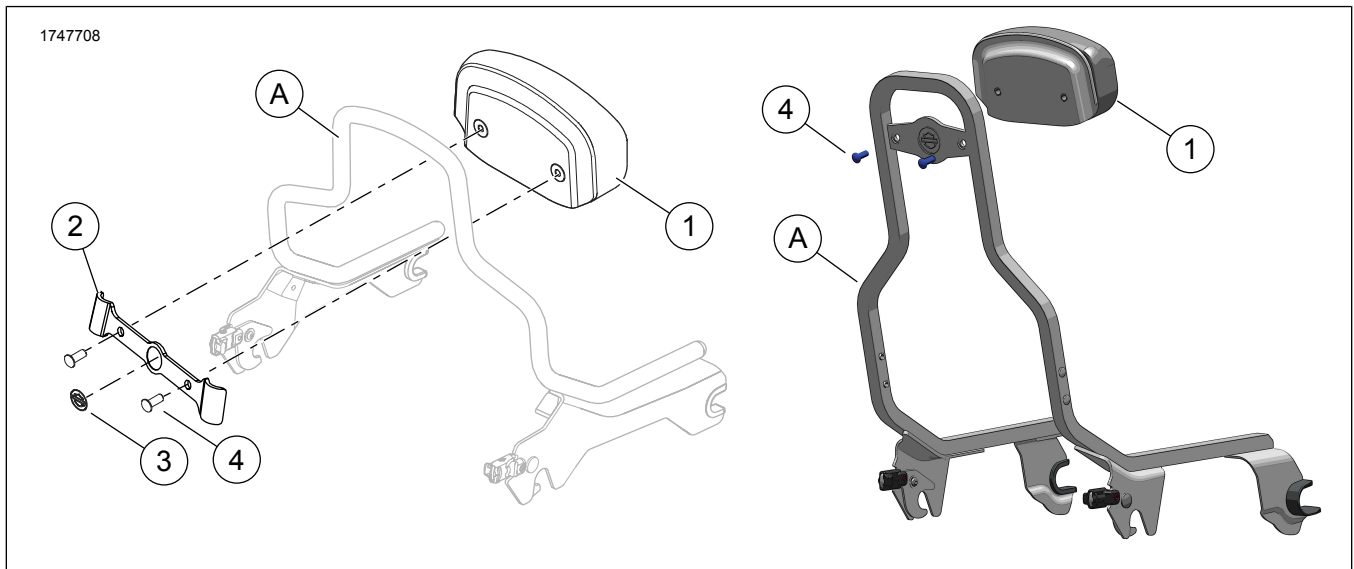

Figure 1. Kit Contents: Compact Backrest Pad Kit
1. See Figure 1. Position backrest pad (1) so that contour in base aligns with top of OE sissy bar upright (A).
- Side of bracket (3) are not symmetrical. Width at top is narrower than width at bottom.
- Use a mixture of 50:50 isopropyl alcohol and water solution to thoroughly clean surface of OE upright (A) before installing bracket (2). Allow to dry completely. Install at room temperature. 10–32 °C (50–90 °F)
2. Remove adhesive backing from left and right sides of bracket (3).
3. See Figure 1. Place mounting bracket against pad so that OE sissy bar upright (A) is between pad (1) and bracket (2).
4. Position and press bracket (2) firmly onto OE sissy bar upright (A).
5. Insert screws (4). Tighten.
1. See Figure 1. Use a mixture of 50:50 isopropyl alcohol and water solution to thoroughly clean surface of OE sissy bar upright (A) before installing bracket (2). Allow to dry completely. Install at room temperature.
1. See Figure 1. If necessary, cut plastic rain seal away from pre-cut screw holes in backrest pad (1) to prevent plastic from catching in the threads.
2. Position backrest pad (1) so that contour in base aligns with top OE of sissy bar upright (A).
- See Figure 1. Use a mixture of 50:50 isopropyl alcohol and water solution to thoroughly clean surface of OE sissy bar upright (A) before installing bracket (2). Allow to dry completely. Install at room temperature. 10–32 °C (50–90 °F)
4. See Figure 1. Place mounting bracket (2) against pad (1) so that OE sissy bar upright (A) is between pad and bracket.
5. Position and press bracket (2) firmly onto OE sissy bar upright (A).
6. See Figure 1. Insert screws (4). Tighten.
1. See Figure 1. Align pad (1) with bracket (2).
2. Install screws (4). Tighten.